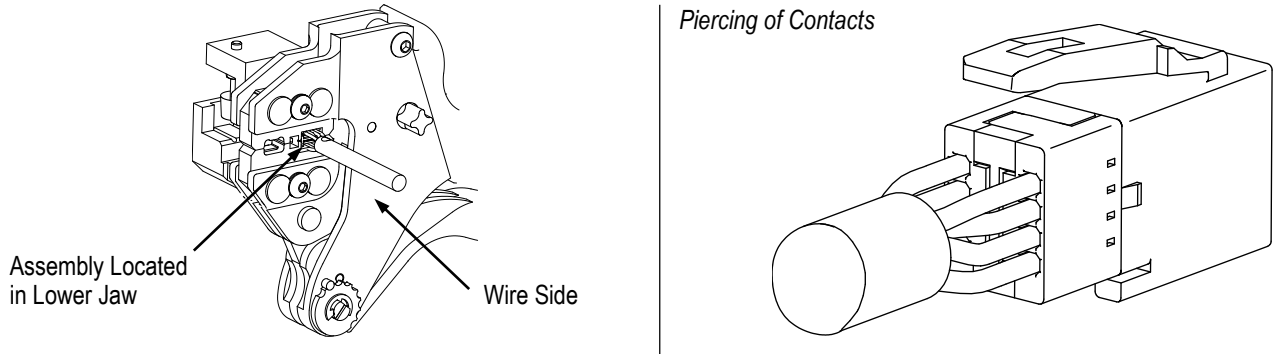

Figure 4
4. Insert the assembly into the lower jaw of the hand tool. Locate the module and crimp. See Figure 4.